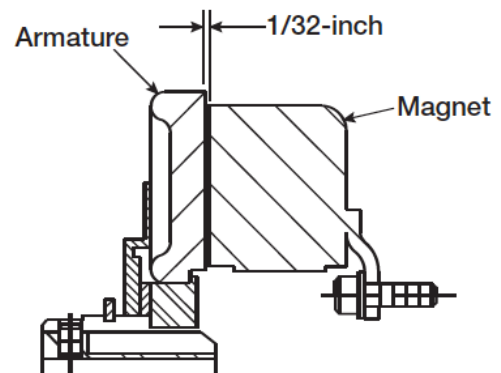

Figure 5
4. Check the assembly by pressing the armature into contact with the magnet face and then releasing it. The armature should spring back about 1/32". This gap will be automatically maintained throughout the life of the unit. (Figure 5)